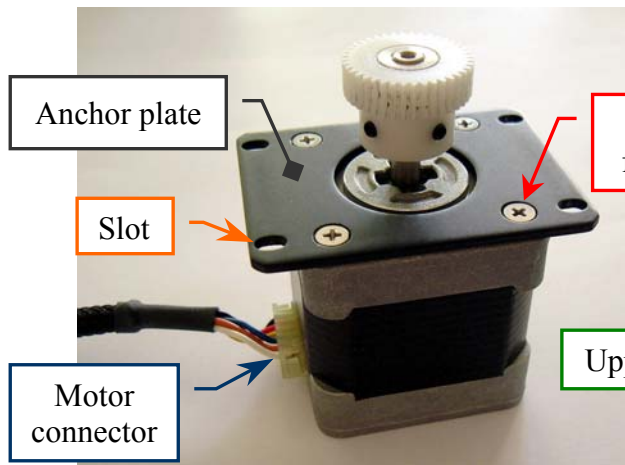
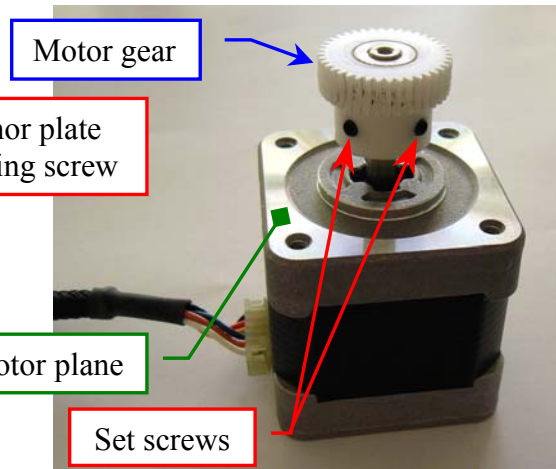
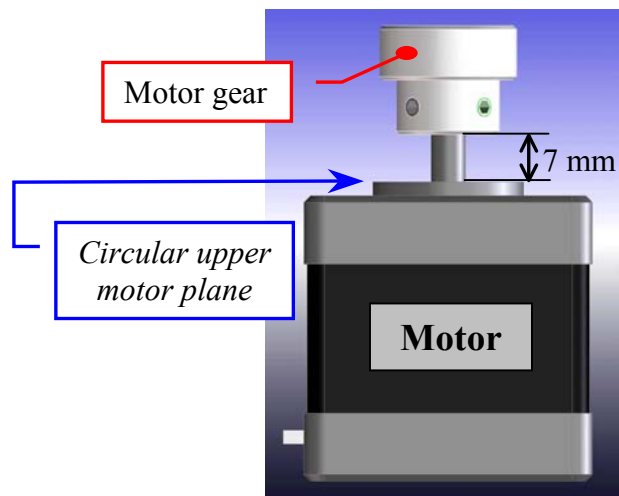

Fig. 18 – Vertical Mov. Arm Motor anchor plate
Fig. 19 – Gear of the Vertical Mov. Arm Motor
Fig. 21 – Plate Motor (scheme)
4. Unscrew the four fastening screws of the Vertical Mov. Arm Motor anchor plate (**Fig. 18**) and take out the anchor plate from the motor.
5. Loosen the two set screws of the motor gear (**Fig. 19**) and extract the gear from the motor shaft.
6. Insert the gear on the motor shaft, position the gear to **7.00 mm** with respect to circular upper motor plane (**Fig. 21**), then tighten the two set screws of the gear (**Fig. 19**).
7. Position the anchor plate on the upper plane of the new Vertical Mov. Arm Motor (**Fig. 19**) with either anchor plate slots sides on the side of the motor connector (as showed in the **Fig. 18**) and screw its four fastening screws.